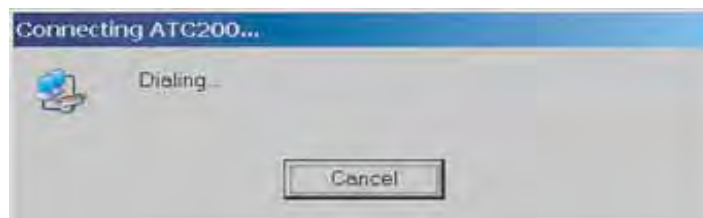

Figure 5-20. Dialing the Serial Connection to Connect to the Controller.
3. The local computer will dial-up a connection to the controller though a modem using the new serial connection (Figure 5-20).